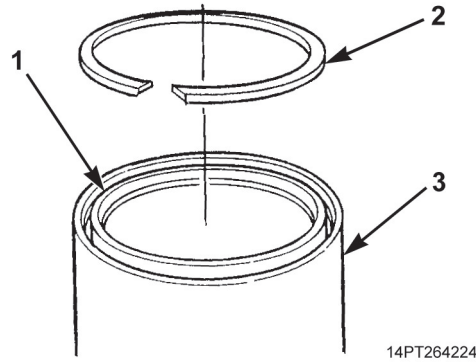

Figure 22. Sleeve Installation.
3. Install sleeve (Figure 22, Item 1) in barrel (Figure 22, Item 3) and install bottom retaining ring (Figure 22, Item 2) in barrel using 5-inch seal installation tool.